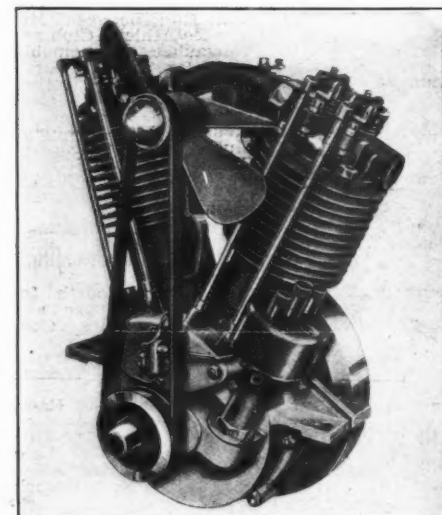

Fig. 3—Service cyclecar motor
**Service Cyclecar Motor**—Realizing that water-cooled motors have certain advantages for cyclecar work not possessed by air-cooled motors, and vice versa, the Rochester Motors Co., Rochester, N. Y., has put on the market a V-type motor, Fig. 3, that is furnished with either air or water-cooled cylinders as desired.